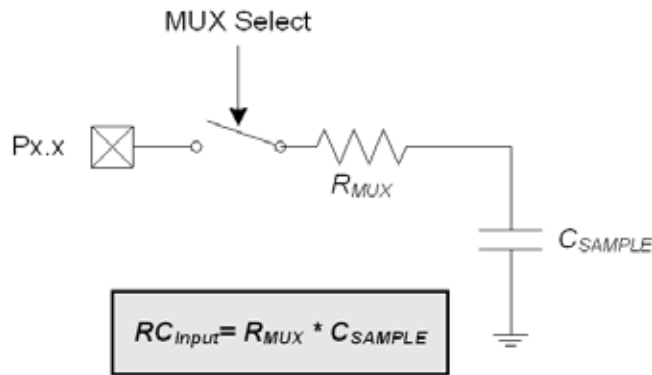

Figure 6.5. ADC0 Equivalent Input Circuit
Figure 6.5 shows the equivalent ADC0 input circuit. The required ADC0 settling time for a given settling accuracy (SA) may be approximated by Equation 6.1. When measuring the Temperature Sensor output, use the tracking time specified in Table 5.11 on page 52. When measuring  $V_{DD}$  with respect to GND,  $R_{TOTAL}$  reduces to  $R_{MUX}$ . See Table 5.10 for ADC0 minimum settling time requirements as well as the mux impedance and sampling capacitor values.